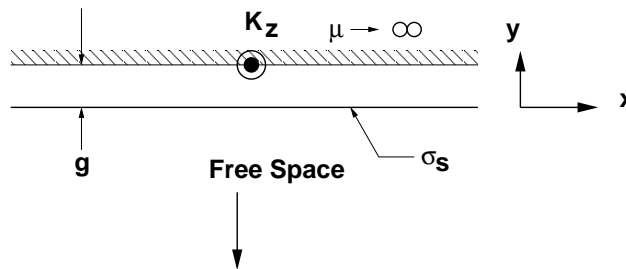

Figure 2: Linear Loss Problem
**Problem 3: Losses** Shown in Figure 2 is another loss problem for which you should *not* use the normal assumption of narrow gap. Assume that the lower surface is thin and has some surface conductivity. That surface is stationary. Below it is 'free space'. There are two ways of treating the upper surface: